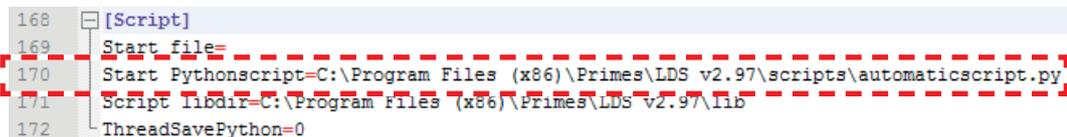

Fig. 19.25: Registration in the laserds.ini
3. Please register this file, as shown in Fig. 19.25 (line 170).